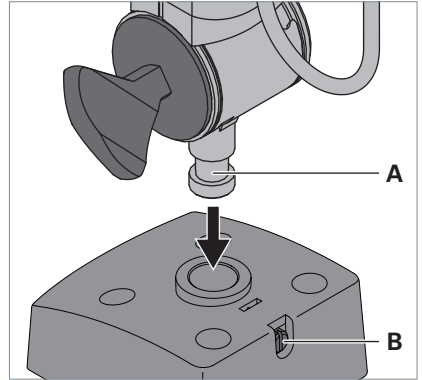

Fig. 2: Mounting the luminaire to the fastening element.
- ▶ Insert the stud **A** on the luminaire column into the opening of the fastening element, see Fig. 2